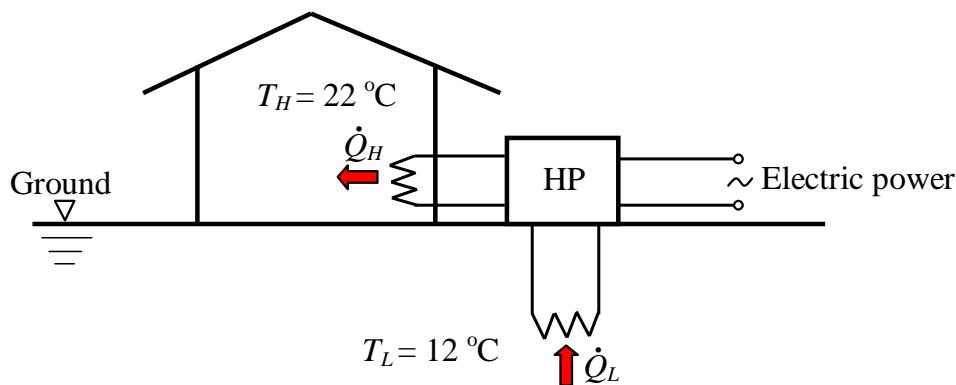

Figure 1: Figure for problem 2
2. Figure 1 schematically shows a house that is heated by a geothermal heat pump (HP) during the winter season in the Winnipeg area. The HP operates between two heat sources, whose temperatures can be treated as constants over the entire winter season: the underground soil temperature is $T_L = 12^\circ\text{C}$ and the indoor environment temperature is $T_H = 22^\circ\text{C}$. The HP receives 12 kW heat from the underground soil (i.e., $\dot{Q}_L = 12 \text{ kW}$) and its nominal coefficient of performance (COP) is $\beta' = 5$. The HP operates continuously during the entire winter season, and Manitoba Hydro charges electric energy consumption at 7 cents per kWh (i.e., \$0.07/kWh).